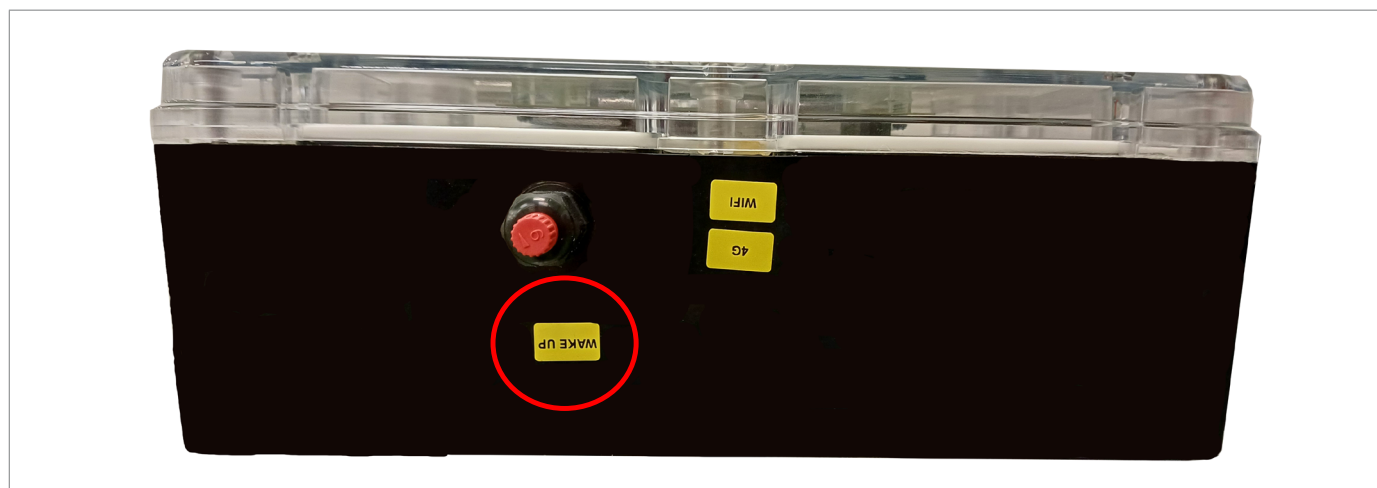

Fig. 5.16. Wi-Fi enabling label
1. Place the magnet next to the 'WAKE UP' label (Fig. 5.16)